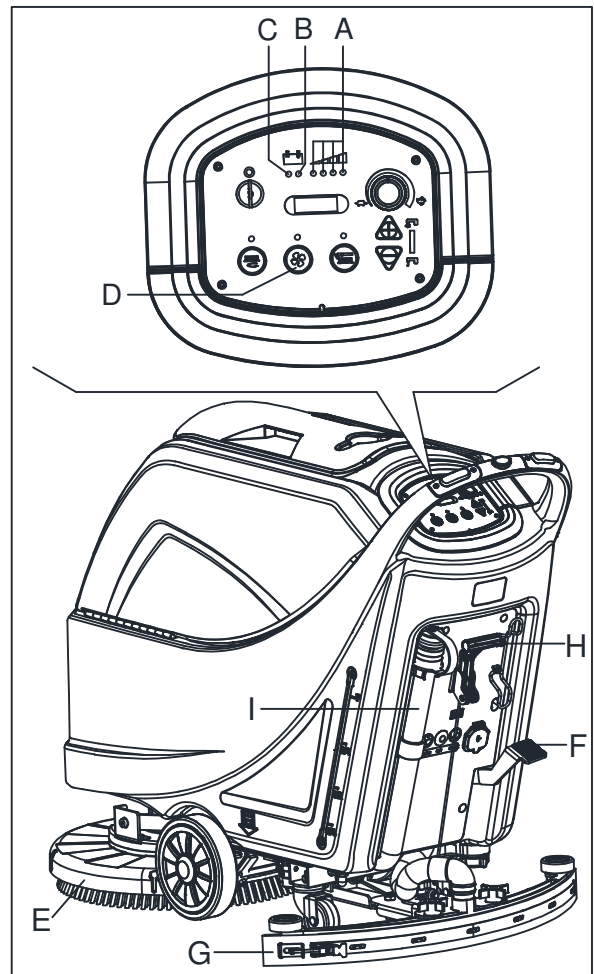
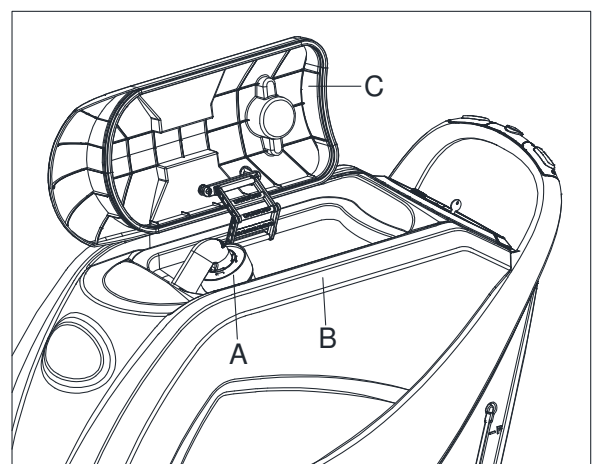

Figure 10
Figure 11
Until the green warning light (A, Figure 10) stays on, the batteries allow the machine to work normally. When the green warning light (A) turns off, and the yellow warning light (B) turns on, it is advisable to charge the batteries, because the remaining charge will last for a few minutes (depending on battery characteristics and work to be performed). When the red warning light (C) turns on, batteries are fully discharged. After a few seconds, the brush/pad holder is automatically tuned off, while the (only for machine with traction) drive system stay on, to finish drying the floor and drive the machine to the appointed recharging area.
An automatic float shut-off system (A, Figure 11) blocks the vacuum system when the recovery water tank (B) is full. The vacuum system deactivation is signaled by a sudden increase in the vacuum system motor noise frequency, also the floor has not dried.
If the vacuum system turns off accidentally (for example, when the float is activated because of a sudden machine movement), to resume the operation: turn off the vacuum system by pressing the switch (D, Figure 10), then open the cover (C, Figure 11) and check that the float inside the grid (A) has gone down to the water level. Then close the cover (C) and turn on the vacuum system by pressing the switch (D, Figure 10).
When the recovery water tank (B, Figure 11) is full, empty it according to the following procedure.
2. Lift the brush/pad holder deck (E, Figure 10) by pressing the pedal (F).
3. Lift the squeegee (G) with the lever (H).
5. Empty the recovery water tank with the hose (I). Then, rinse the tank (B, Figure 11) with clean water.